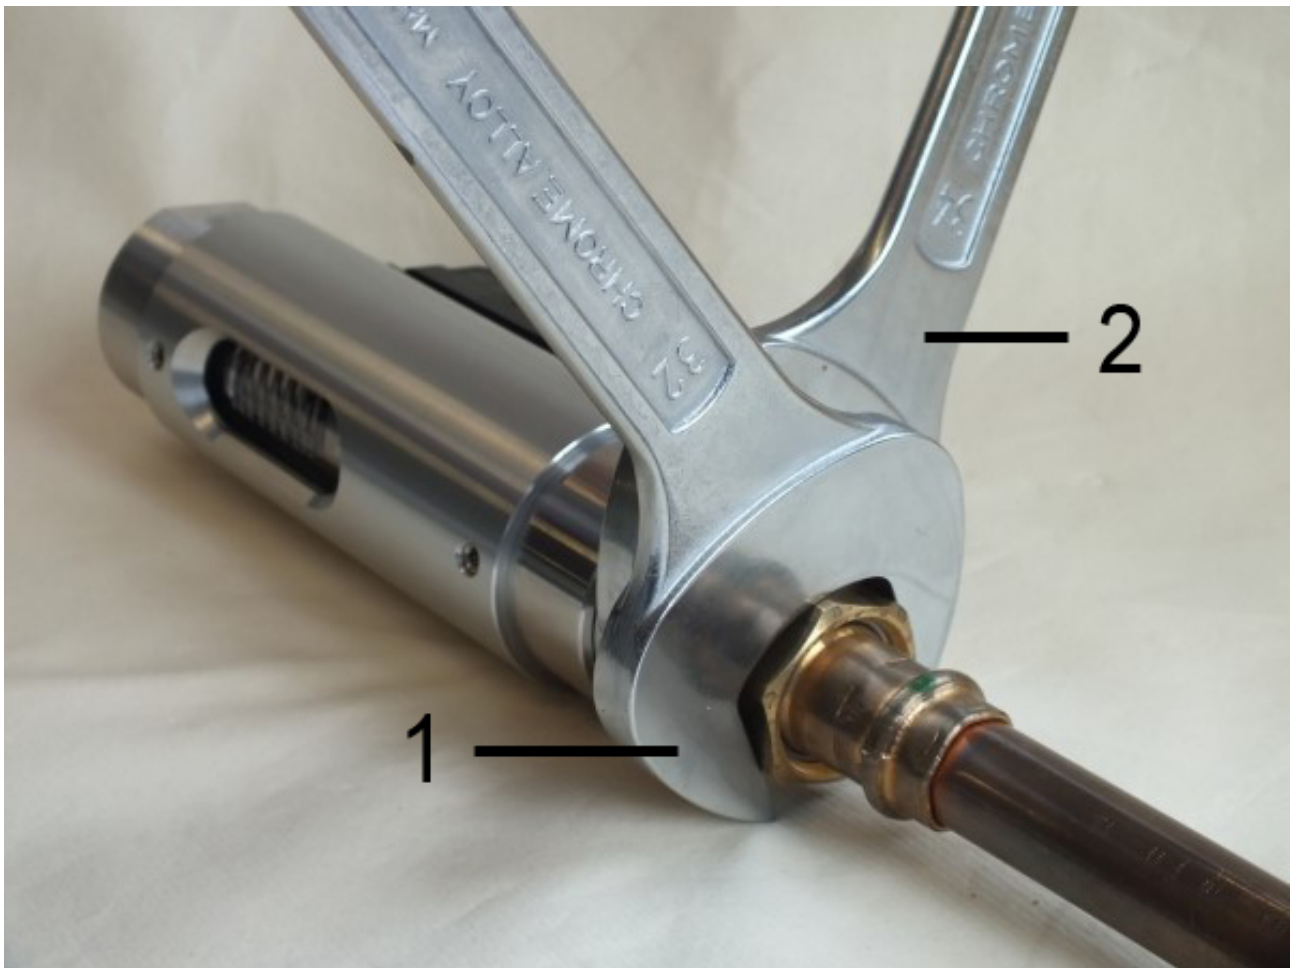

Fig. 11: Screw in the device
2. ➔ Fasten the adapter union of the pipeline with an appropriate spanner (*Fig. 11/1*). When doing so, lock the process connection in place to prevent slip, using a suitable spanner (*Fig. 11/2*)